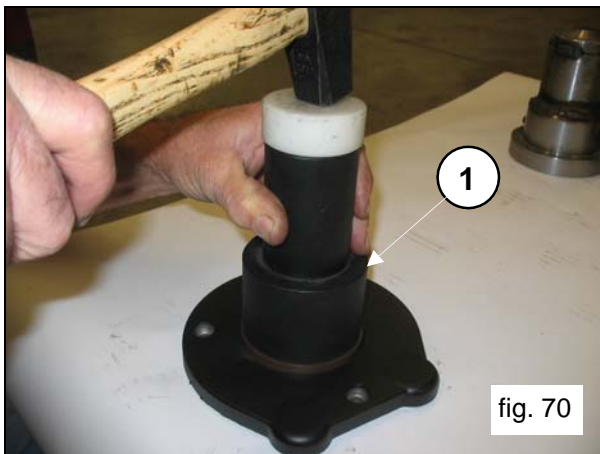
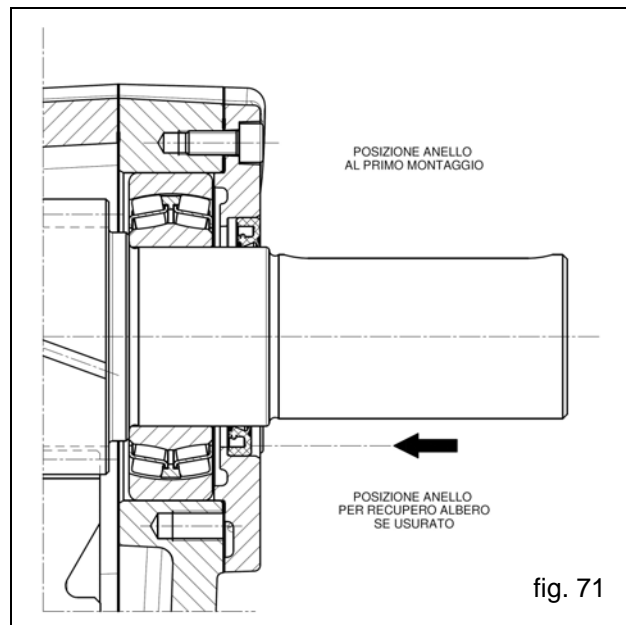

fig. 70
fig. 71
Insert the oil seal inside the reducer flange using the tool cod.27515900 and cod. 27548200 (pos. ①, fig.70). Before proceeding with oil seal assembly, verify the conditions of the sealing lip. If replacement is necessary, position the new ring as indicated in fig.71.
If the shaft presents diameter wear corresponding to the sealing lip, to avoid the need for grinding it's possible to position the ring as indicated in fig. 71.